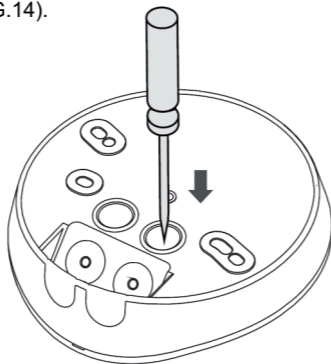

FIG. 14
3.4.2.2 Feed the power cables through bottom base, please use the screwdriver to break the cable entry knockouts on the bottom base (See FIG.14).